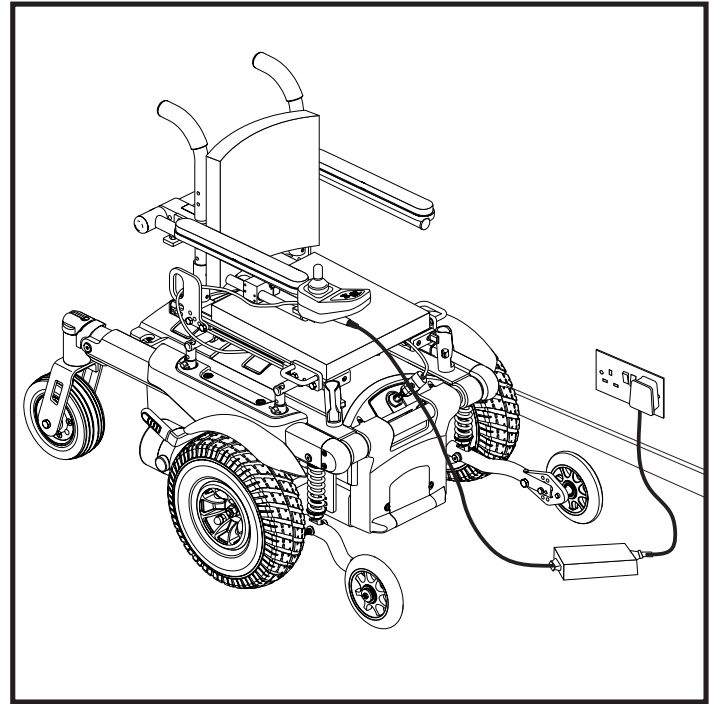

Figure 21. Battery Charging
3. Plug the off-board charger into the off-board charger/programming socket on the controller. See figure 21.